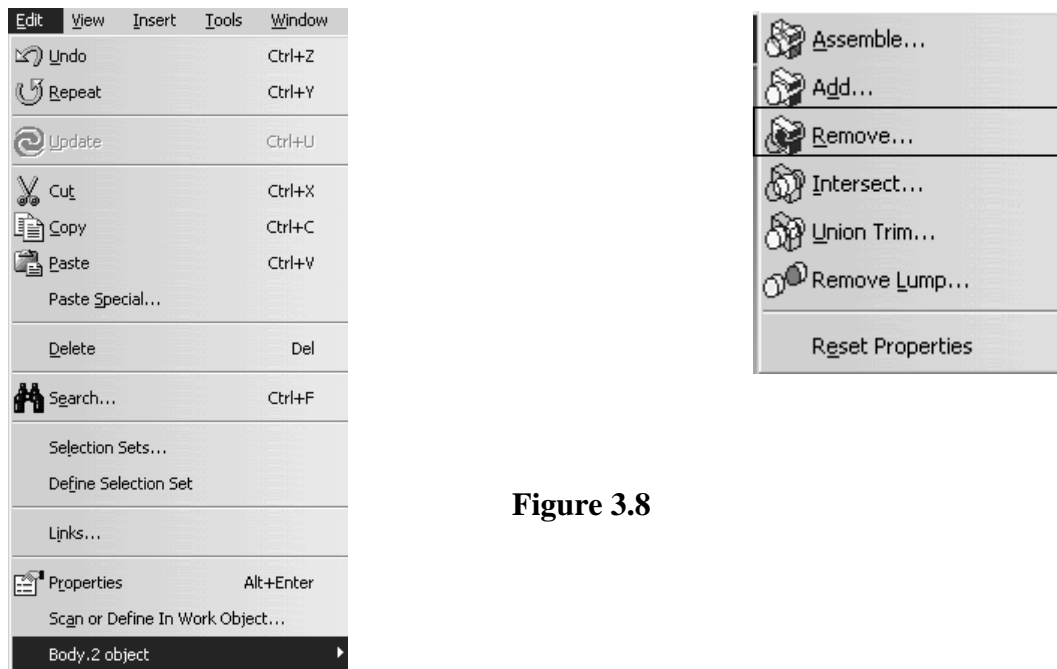
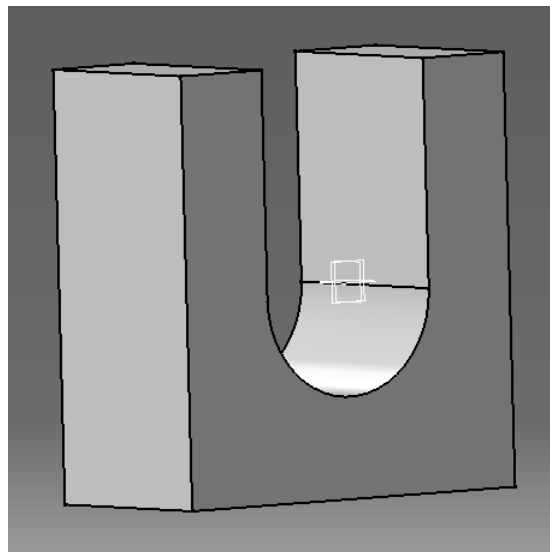

Figure 3.8
Figure 3.9
- 3.14 Select the Edit tab from the top pull down menu as shown in figure 3.8
- 3.15 Select the body.2 Object from the bottom of the edit window Figure 3.8.
- 3.16 Select Remove from the list of Boolean Operations as shown in figure 3.8. this will remove the second profile from the first profile. Reference figure 3.9. selecting the Insert, Boolean Operation, Remove option will give you the same result.